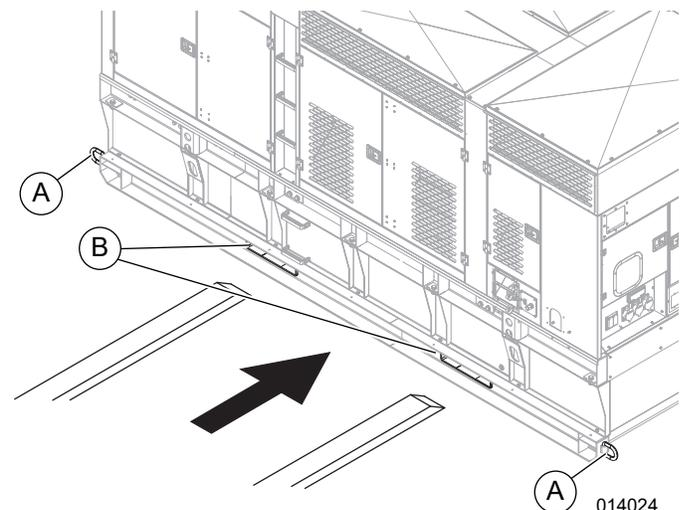

Figure 3-20. Skid-Mounted Unit
- See Figure 3-20. Skid mounted units can also be lifted using the fork pockets (B).